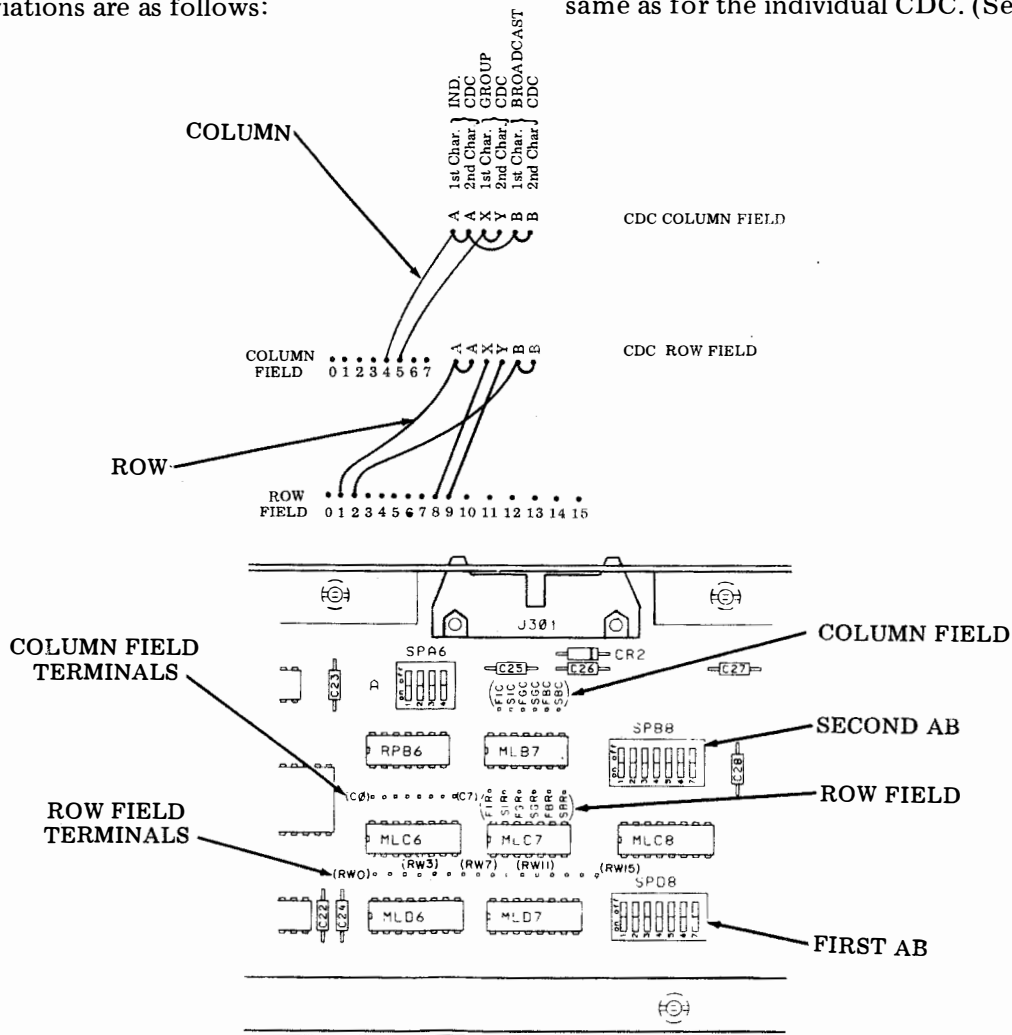

Fig. 8—CDC Row and Column Terminal Locations (Old 430916 Circuit Card) and CDC Coding Example
2.18 Options for the teleprinter and selective calling feature are numbered with alpha suffixes. Selection for existing options and the new options are as listed in 2.20. The methods for enabling these options are shown under Coding CDCs and Coding ABs, Fig. 8, 9 and 10.
8th bit is internally set to provide even parity only. Switchpack SPD8 (old circuit card) and SPA1 (new circuit card) is for the first answer-back character and SPB8 (old circuit card) and SPC1 (new circuit card) is for the second answer-back character. The switches are factory furnished in the ON position. (Refer to Fig. 8 and 8A).